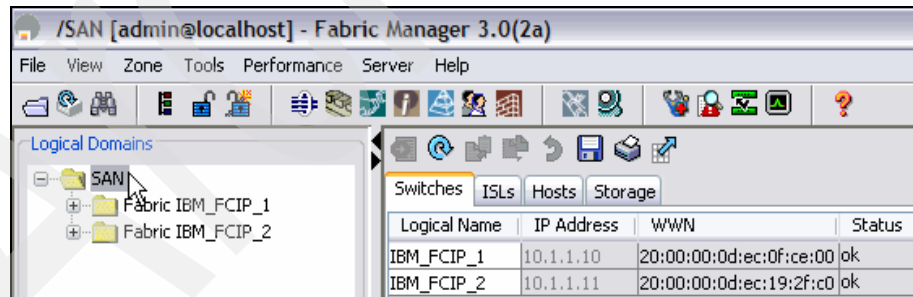

Figure 12-10 San selection
**Tip:** Before starting the FCIP tunnel wizard, ensure that you select **SAN** in the Logical Domains pane on the left side of FM, as shown in Figure 12-10 on page 342. This enables you to select your switches from the drop-down menus in the wizard. Also, ensure that you have the physical GigE interfaces cabled to your LAN.